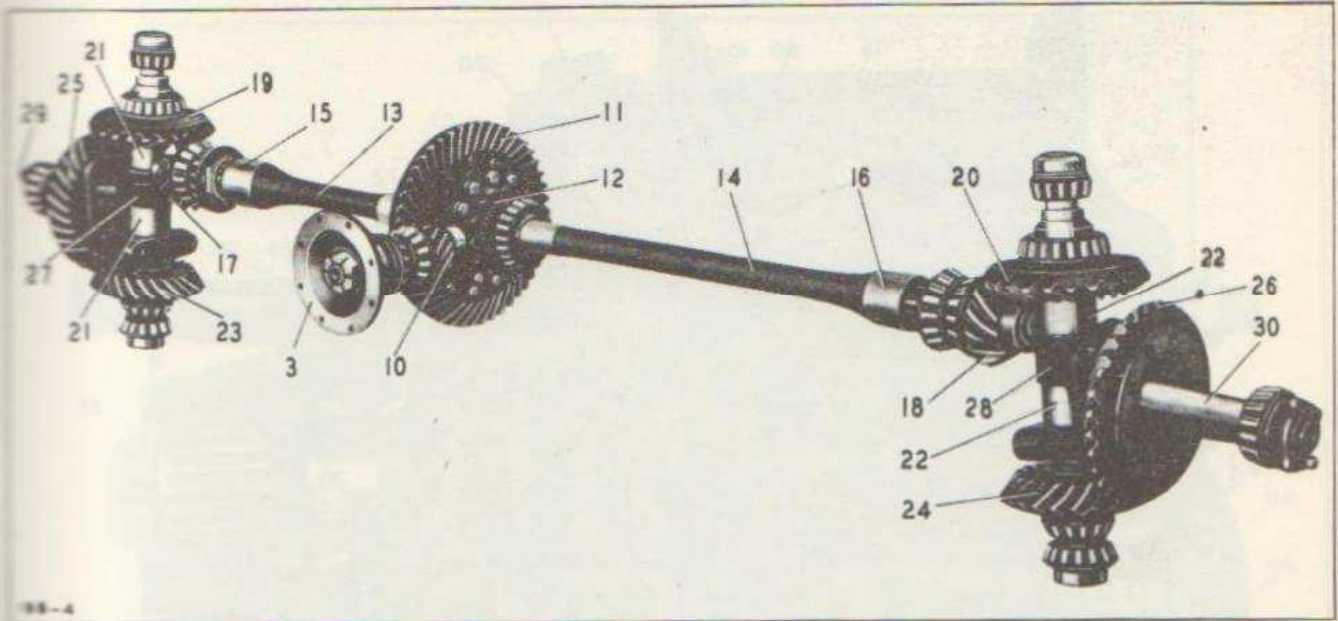

Fig. 6—Skeleton View of Driving Gear Train
As shown by Figure 6, the axle drive unit containing the first reduction is of the conventional single-reduction type, having a straddle-mounted bevel pinion gear (10), a bevel ring gear (11) and a three-pinion differential gear assembly enclosed in the casing (12). The left hand differential side gear drives the axle shaft (13) by its externally splined inner end and the right hand differ-